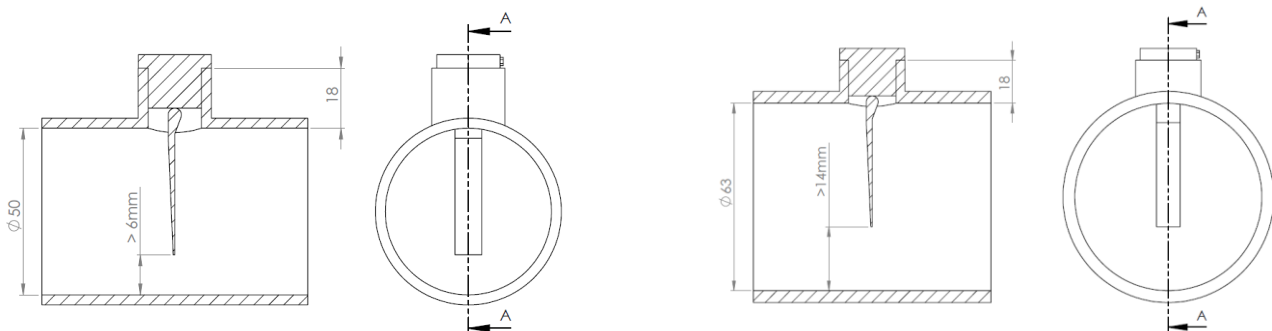

Figure 27 - Flow Switch Paddle Length Adjustment
- There must be a 5 mm (0.2") minimum gap between end of the paddle and opposite pipe wall (see Figure 27).